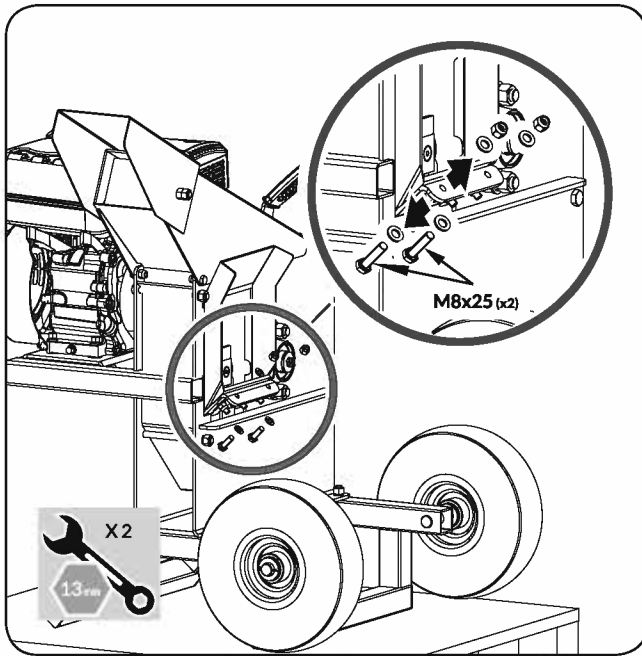

Figure 6
- Remove the M8X25 bolts, flat washers, and nuts from the machine where the feed hopper will be attached. Set aside for later use. (See **Figure 6**)